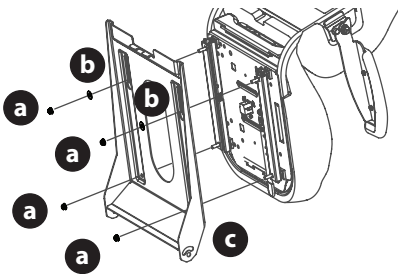

Fig. 6
- b. For a Lever Adjust seat use flange lock nuts (a) and flat washers (b) (Fig. 6).